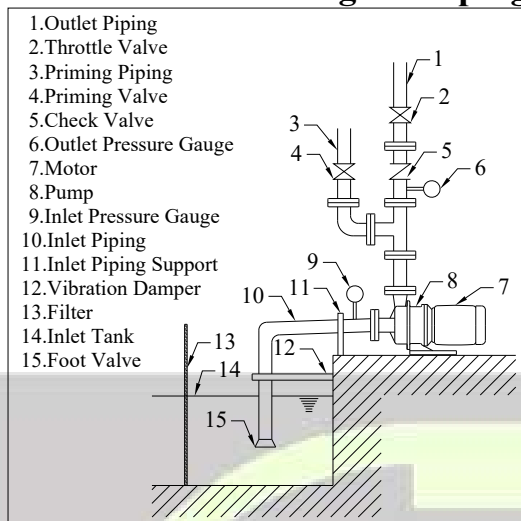
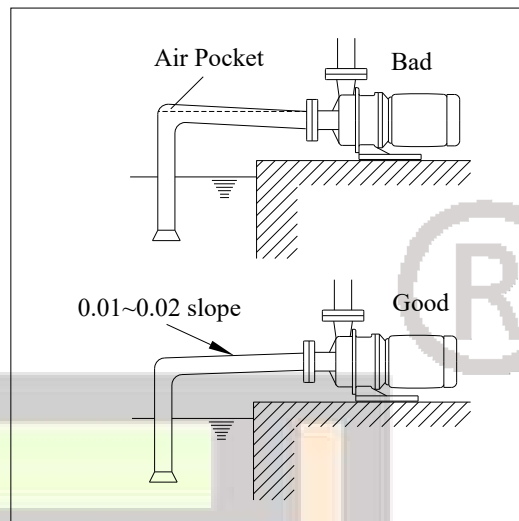

Fig. 4.1
Fig. 4.2
General requirements Suction System	(1) Suction condition must satisfy $NPSH_a > NPSH_r + 0.5 \text{ m}$. (2) Minimize suction piping loss by using straight and short piping. (3) The piping should be supported adequately (see Fig. 4.1). The pump should not be used for piping support. (4) Effects of temperature changes should be factored into the support structure design to prevent thermal stress buildup. (5) Suction piping and connectors should be hermetically sealed to prevent drawing in air during operation. (6) The suction piping should not be allowed to collect air. There should be a 0.01~0.02 upward slope towards the pump (see Fig. 4.2). (7) There should not be any elbows within 5D (5 times diameter) distance from the pump opening. The elbow closest to the pump suction should be a long radial elbow.
Foot valve	Install a foot valve if negative suction or upward suction is used (see Fig. 4.1).